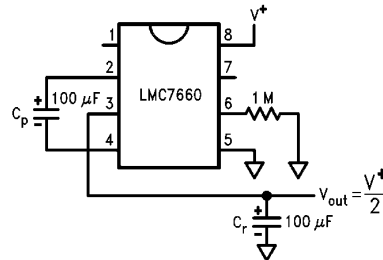

FIGURE 8. Split  $V^+$  in Half
*Figure 8* is one of the more interesting applications for the LMC7660. The circuit can be used as a precision voltage divider (for very light loads), alternately it is used to generate a  $\frac{1}{2}$  supply point in battery applications. In the  $\frac{1}{2}$  cycle when S1 and S3 are closed, the supply voltage divides across the capacitors in a conventional way proportional to their value.